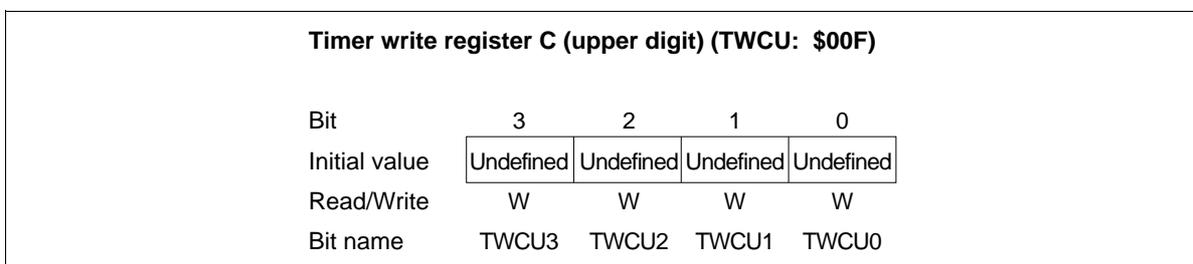

**Figure 44 Port Mode Register A (PMRA)**
- Port mode register A (PMRA: \$004): Write-only register that selects R03/TOC pin function as shown in figure 44. It is reset to \$0 by MCU reset.
**Port Mode Register A (PMRA: \$004):** Four-bit write-only register that selects D3/BUZZ pin function as shown in figure 44. It is reset to \$0 by MCU reset.